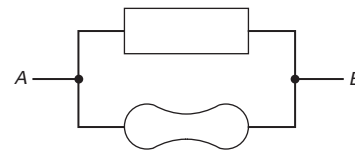

Figure 1.1. Parallel connection.
2. Things hooked in parallel (Figure 1.1) have the same voltage across them. Restated, the sum of the “voltage drops” from A to B via one path through a circuit equals the sum by any other route, and is simply the voltage between A and B. Another way to say it is that the sum of the voltage drops around any closed circuit is zero. This is Kirchhoff's voltage law (KVL).